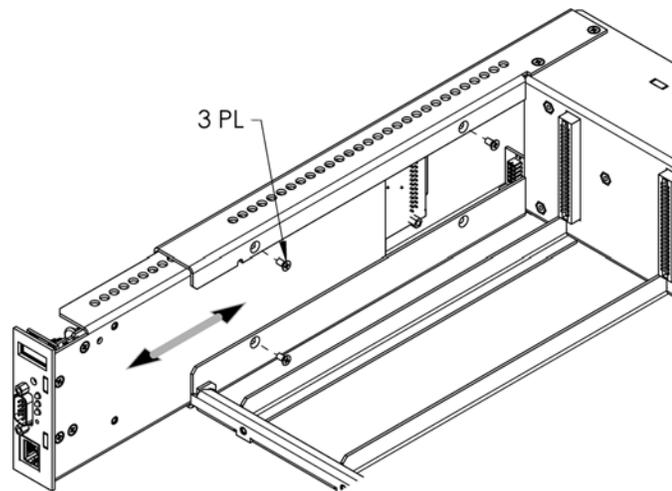

Figure 14—Showing CXCI removal and replacement
7. Remove three mounting screws from the CXCI as shown in Figure 14.